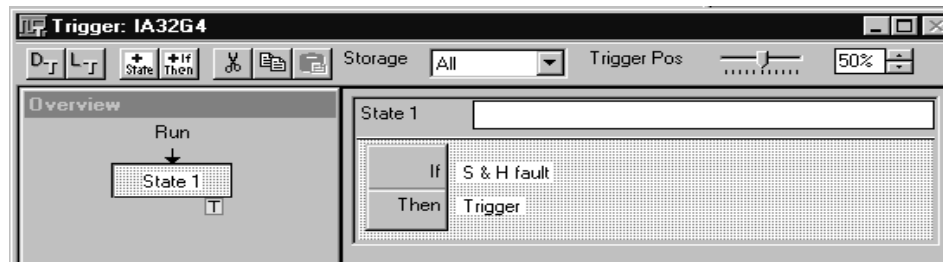

Figure 1–1: Trigger setup for the channel group
3. From the Clause Definition window, open the If-clause pulldown menu, select S&H fault, and then click on the Define Violation button (see Figure 1–1).